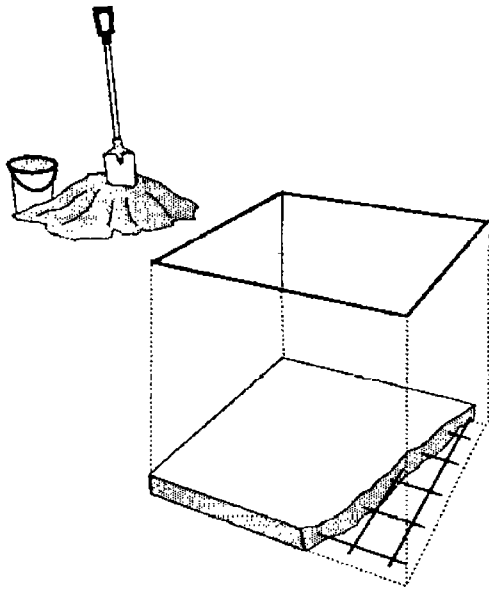

Figure 4. Laying the floor
- Mix cement concrete (1 shovelful of cement, 2 shovelfuls of sand and 4 shovelfuls of gravel, with water) and pour the concrete into the bottom of the hole to form a floor about 50 millimetres thick. The reinforcing grid should be in the middle of the concrete layer (see Figure 4).